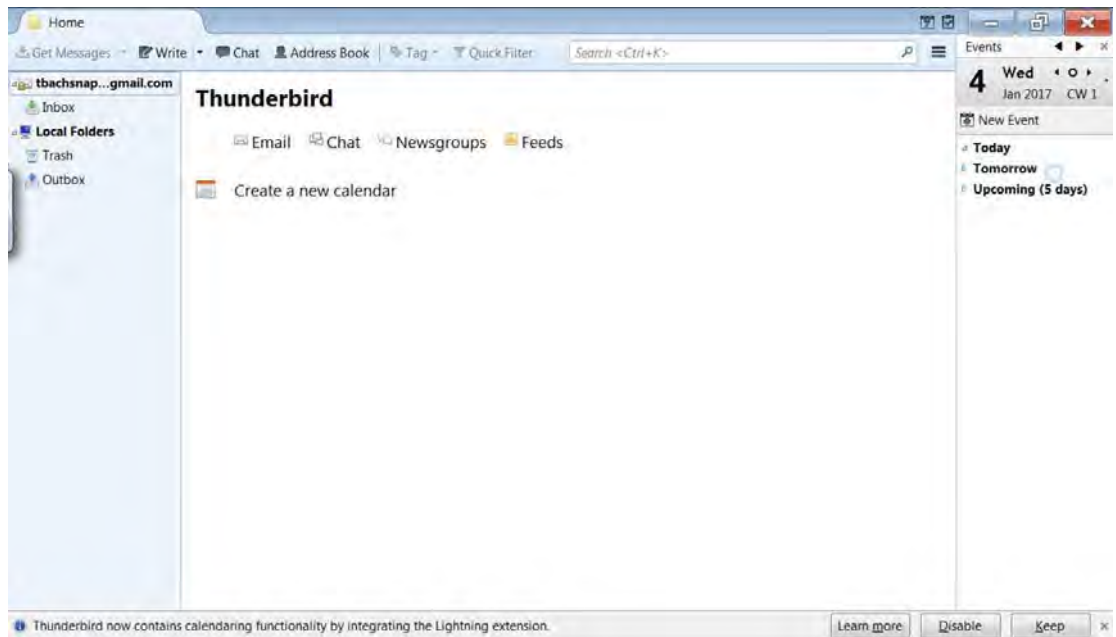

Figure 12-15
8. Once the client has successfully linked to your address, you can begin using the new e-mail client software on the diagnostic tool (Figure 12-15).